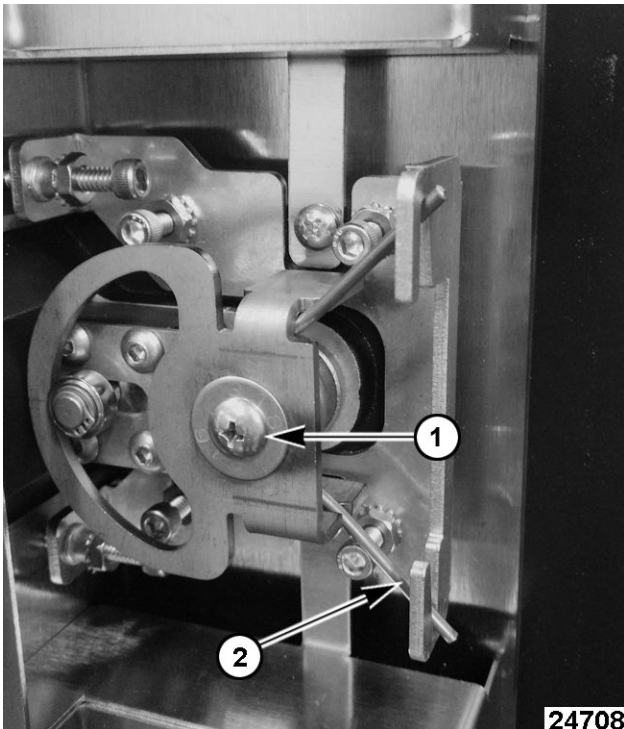

Fig. 14
3. Remove cam screw (1, Fig. 14) and washer.
4. Release torsion spring from lower slot (2, Fig. 14) in clamp bracket, then release top spring.